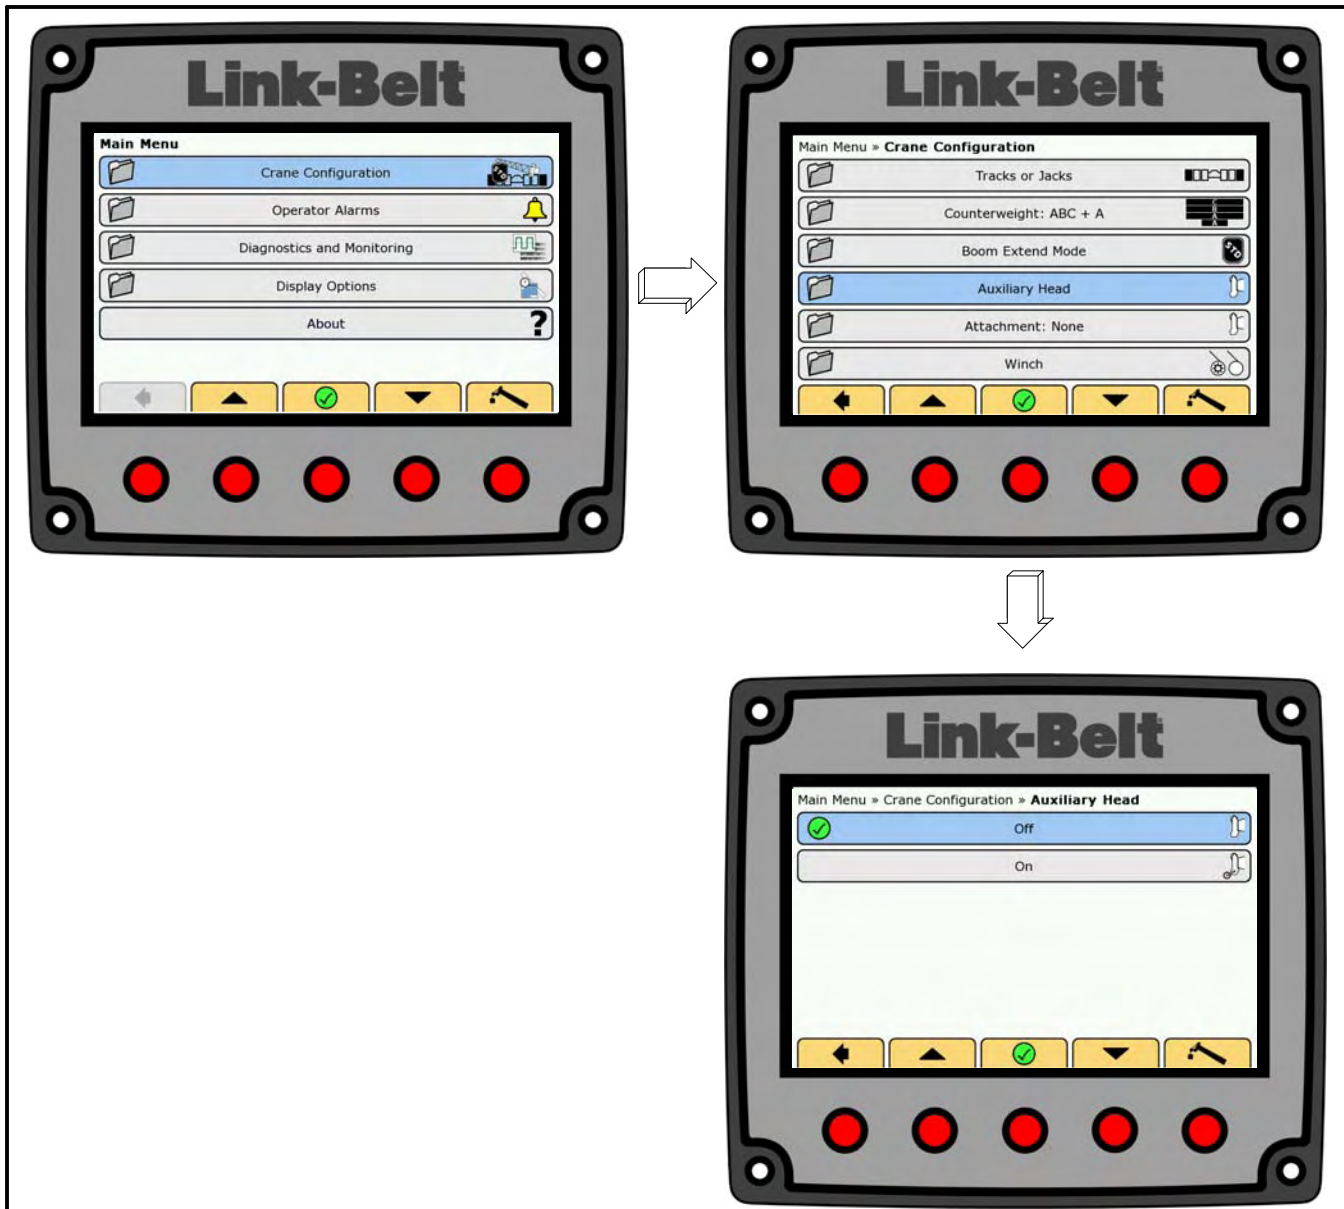

Figure 1–78
12. On the Crane Configuration menu, scroll to Auxiliary Head, and press the OK/Enter button . Refer to Figure 1–78.